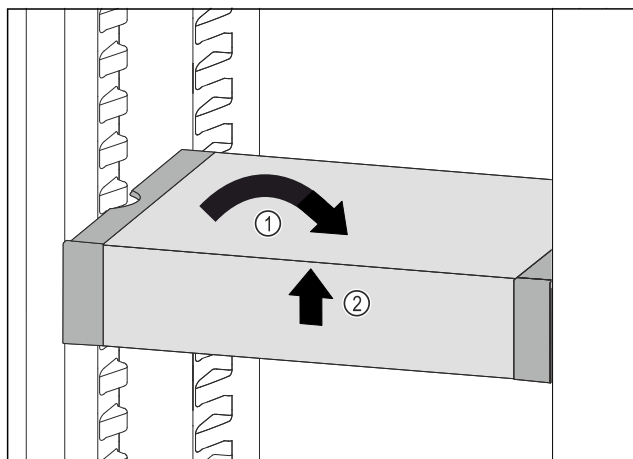

Fig. 129
- Set VarioSafe straight. Fig. 129 (1)
- Lift VarioSafe at the front. Fig. 129 (2)